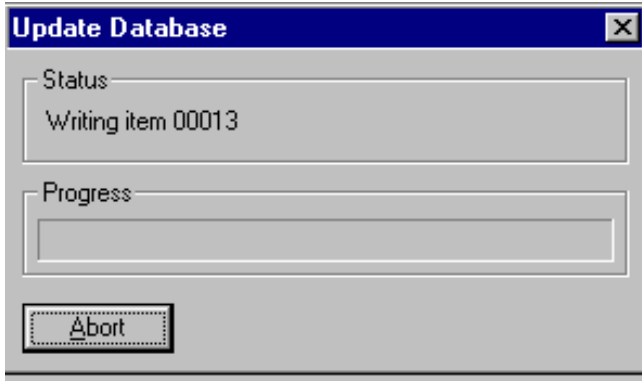

Fig. 13.41
6. A Progress meter appears and continues to display until the update is complete. See Fig. 13.41.
NOTE: The update can be terminated by pressing Abort on the Progress meter (Fig. 13.41).